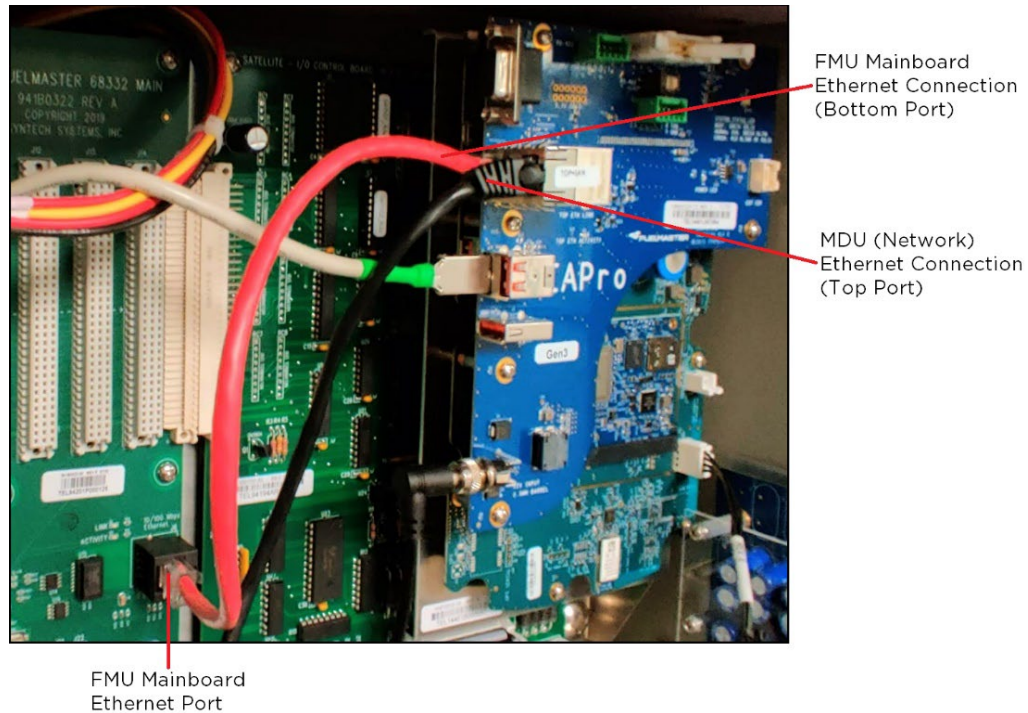

Figure 7 Connection to the FMU
5. Connect the other end of the Ethernet cable into the top Ethernet port on the EAPro (Figure 7).